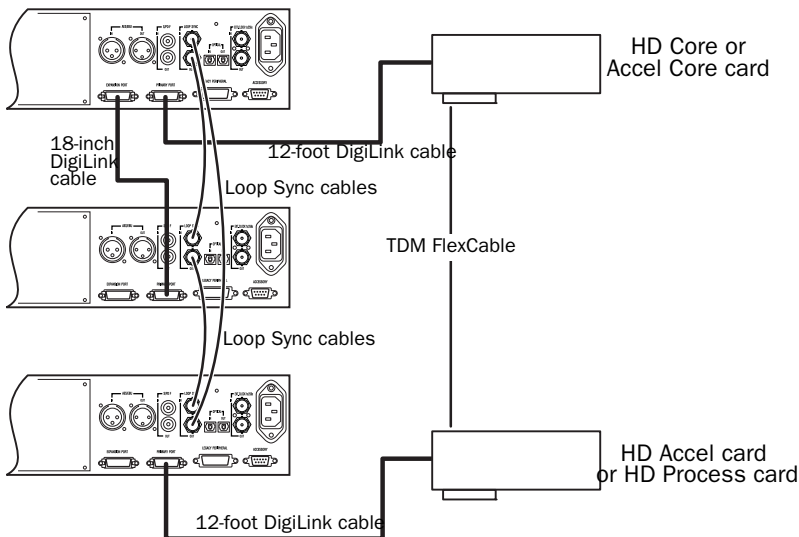

Figure 3. Three 96 I/Os, 48-channel
- 3 Connect additional Pro Tools|HD audio interfaces to subsequent Pro Tools|HD audio interfaces or cards. See Figure 3 on page 7.